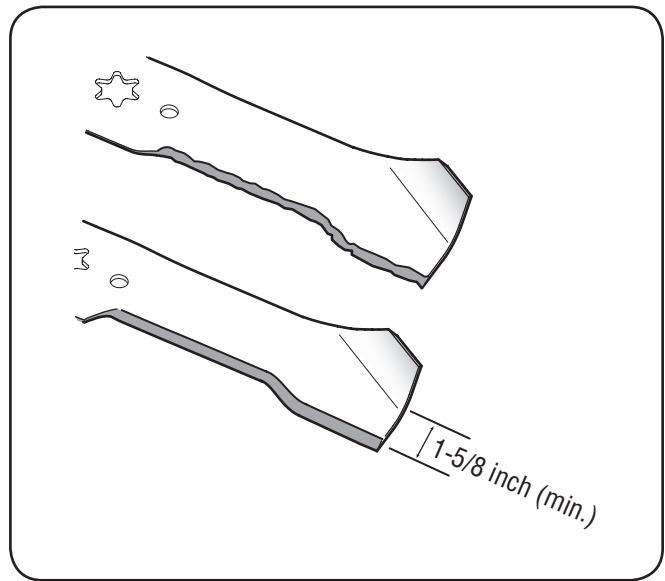

Figure 7-5
4. To properly sharpen the cutting blades, remove equal amounts of metal from both ends of the blades along the cutting edges, parallel to the trailing edge, at a 25° to 30° angle. Always grind each cutting blade edge equally to maintain proper blade balance. See Fig. 7-5.